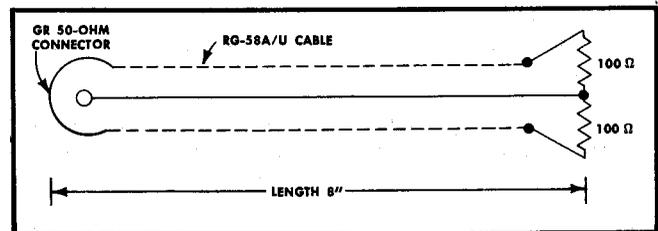

Fig. 6-1. 50-ohm terminated pigtail circuit.
- (1) Conventional test oscilloscope such as a Tektronix Type 540-Series Oscilloscope with a Type L Plug-In Unit, a Type P6000 10X Attenuator Probe and a Type P6027 1X Attenuator Probe. Substitute specifications: Bandpass 30 mc with the 10X probe; deflection factor, at least 50 mv per cm and at least 5 mv per cm at reduced bandpass.
- (2) Sampling test oscilloscope such as a Tektronix Type 561 Oscilloscope with a Type 3S76 and a Type 3T77 Plug-In Units. Substitute specifications: Risetime, 0.4 nsec or less; any deflection factor up to 20 volts per division. (The Tektronix Type 519 (conventional) Oscilloscope can also be used as an excellent substitute.)
- (3) One 50-ohm 20-nsec cable, 160", RG-8A/U, with GR 874 connectors on each end, Part No. 017-504.
- (4) One 50-ohm 5 nsec cable, 40", RG-8A/U, with GR 874 connectors on each end, Part No. 017-502.
- (5) One 50-ohm terminated cable assembled as shown in Fig. 6-1. Requires the following parts: